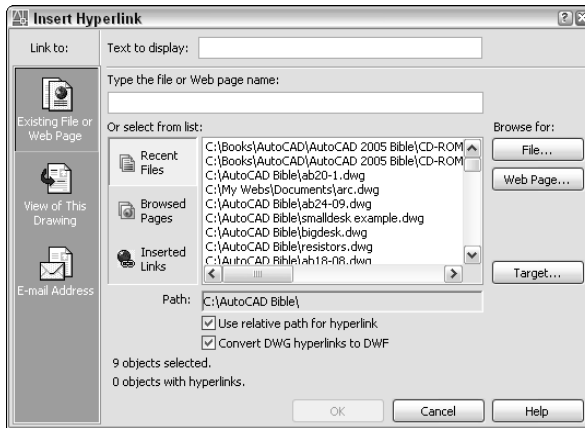

**Figure 28-4:** The Insert Hyperlink dialog box attaches hyperlinks to objects in your drawing.
2. Choose Insert ⇨ Hyperlink (or Ctrl+K) to open the Insert Hyperlink dialog box, shown in Figure 28-4. (If you start the command first, select objects at the prompt.)